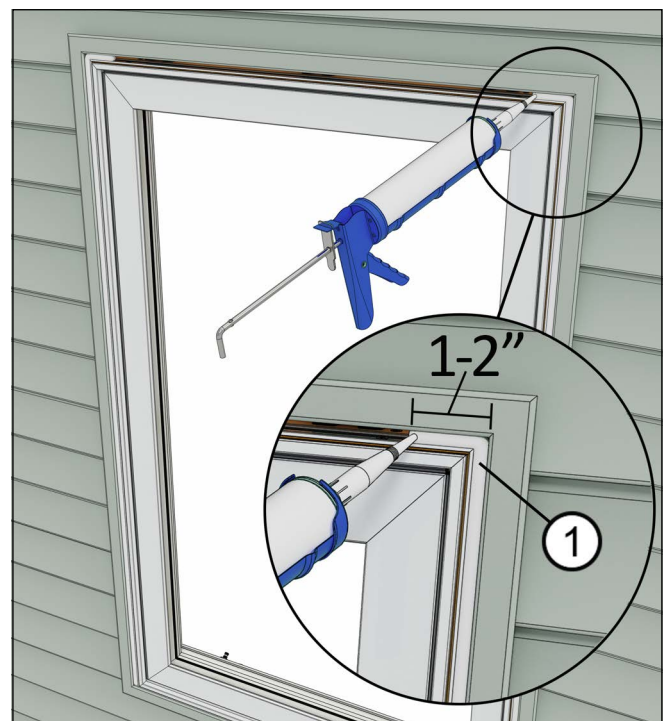

Figure 37
2. At the exterior, once the exterior finish such as siding or brick veneer is installed, apply a bead of sealant between the finish and the frame exterior along the sides. Apply additional beads approximately 1"-2" (25-51) at the ends on top of the head jamb flashing. Use a backer rod when necessary. See Figure 37.